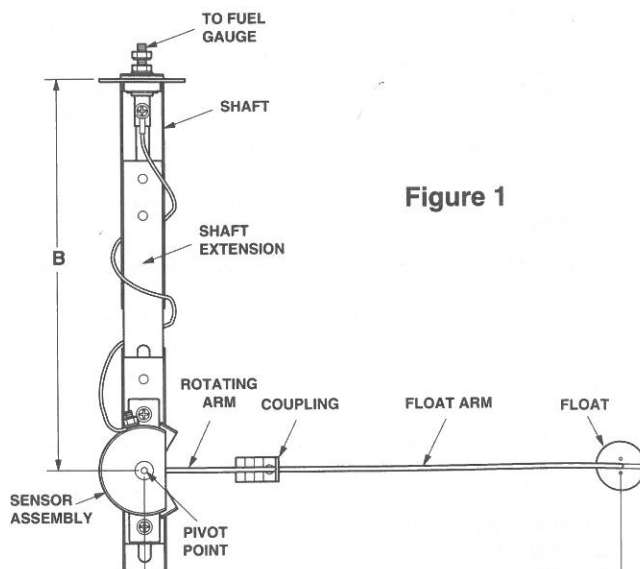

Figure 1
**NOTE:** Refer to your vehicle's service manual to determine the depth of your fuel tank. Adjust the float arm length ("A", Figure 1) and shaft length ("B", Figure 1) as described in the following steps.
2. Measure the *actual* length of the float arm ("A", Figure 1) from the center of the float to the center of the pivot point.